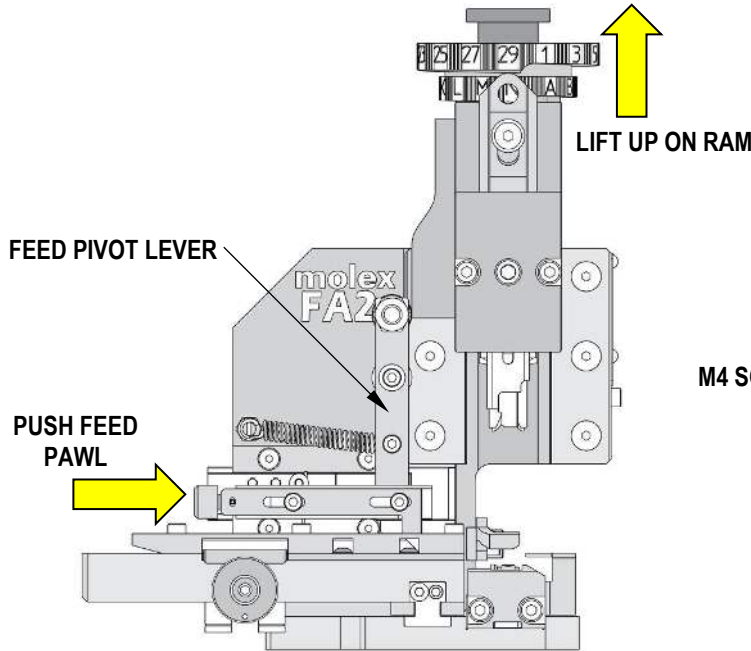

Figure 4.10.2
5. Push the feed pawl slide toward the ram so the feed pivot lever is vertical, and lift the ram to remove it from the applicator. See Figure 4.10.2.